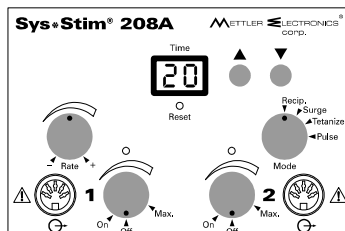

Figure 3.2— Sys*Stim 208A, Front View—Electrode Cable Connections
4. Plug the electrode cables (ME 2260) into the electrode cable jacks as seen in Figure 3.2.